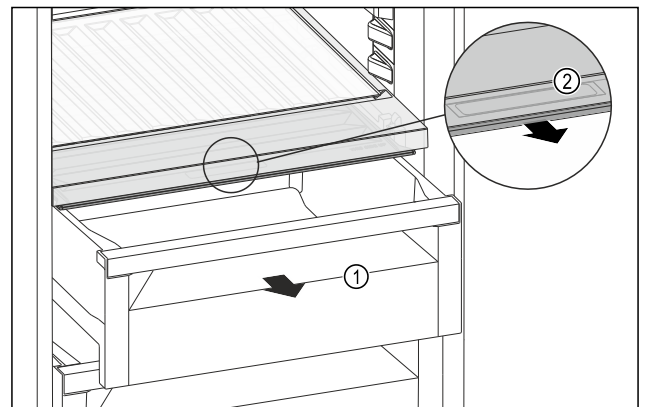

Fig. 144
- ▶ Pull out the drawer *Fig. 144 (1)*.
- ▶ Grasp the recessed grip *Fig. 144 (2)* on the compartment lid and pull the compartment lid forwards at the same time.